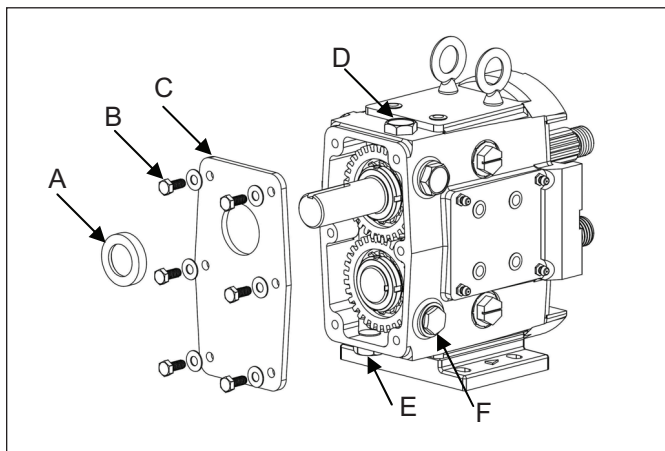

Figure 38. Gear Case Disassembly (Gear Case Cover)
1. Remove the pump head as described on *page 21* (Pump Disassembly). Remove the bottom oil plug and drain the oil from the gear case (remove oil fill plug for faster drain). Remove the six hex head cap screws and washers from the gear case cover and slide the cover off the drive shaft (*Figure 38*). If the cover is stuck, use a soft mallet to tap around the edges until it breaks free. Using a straight edge remove the liquid gasket used to seal the cover to the gear case. Remove and discard the oil seal from the cover using an arbor press.